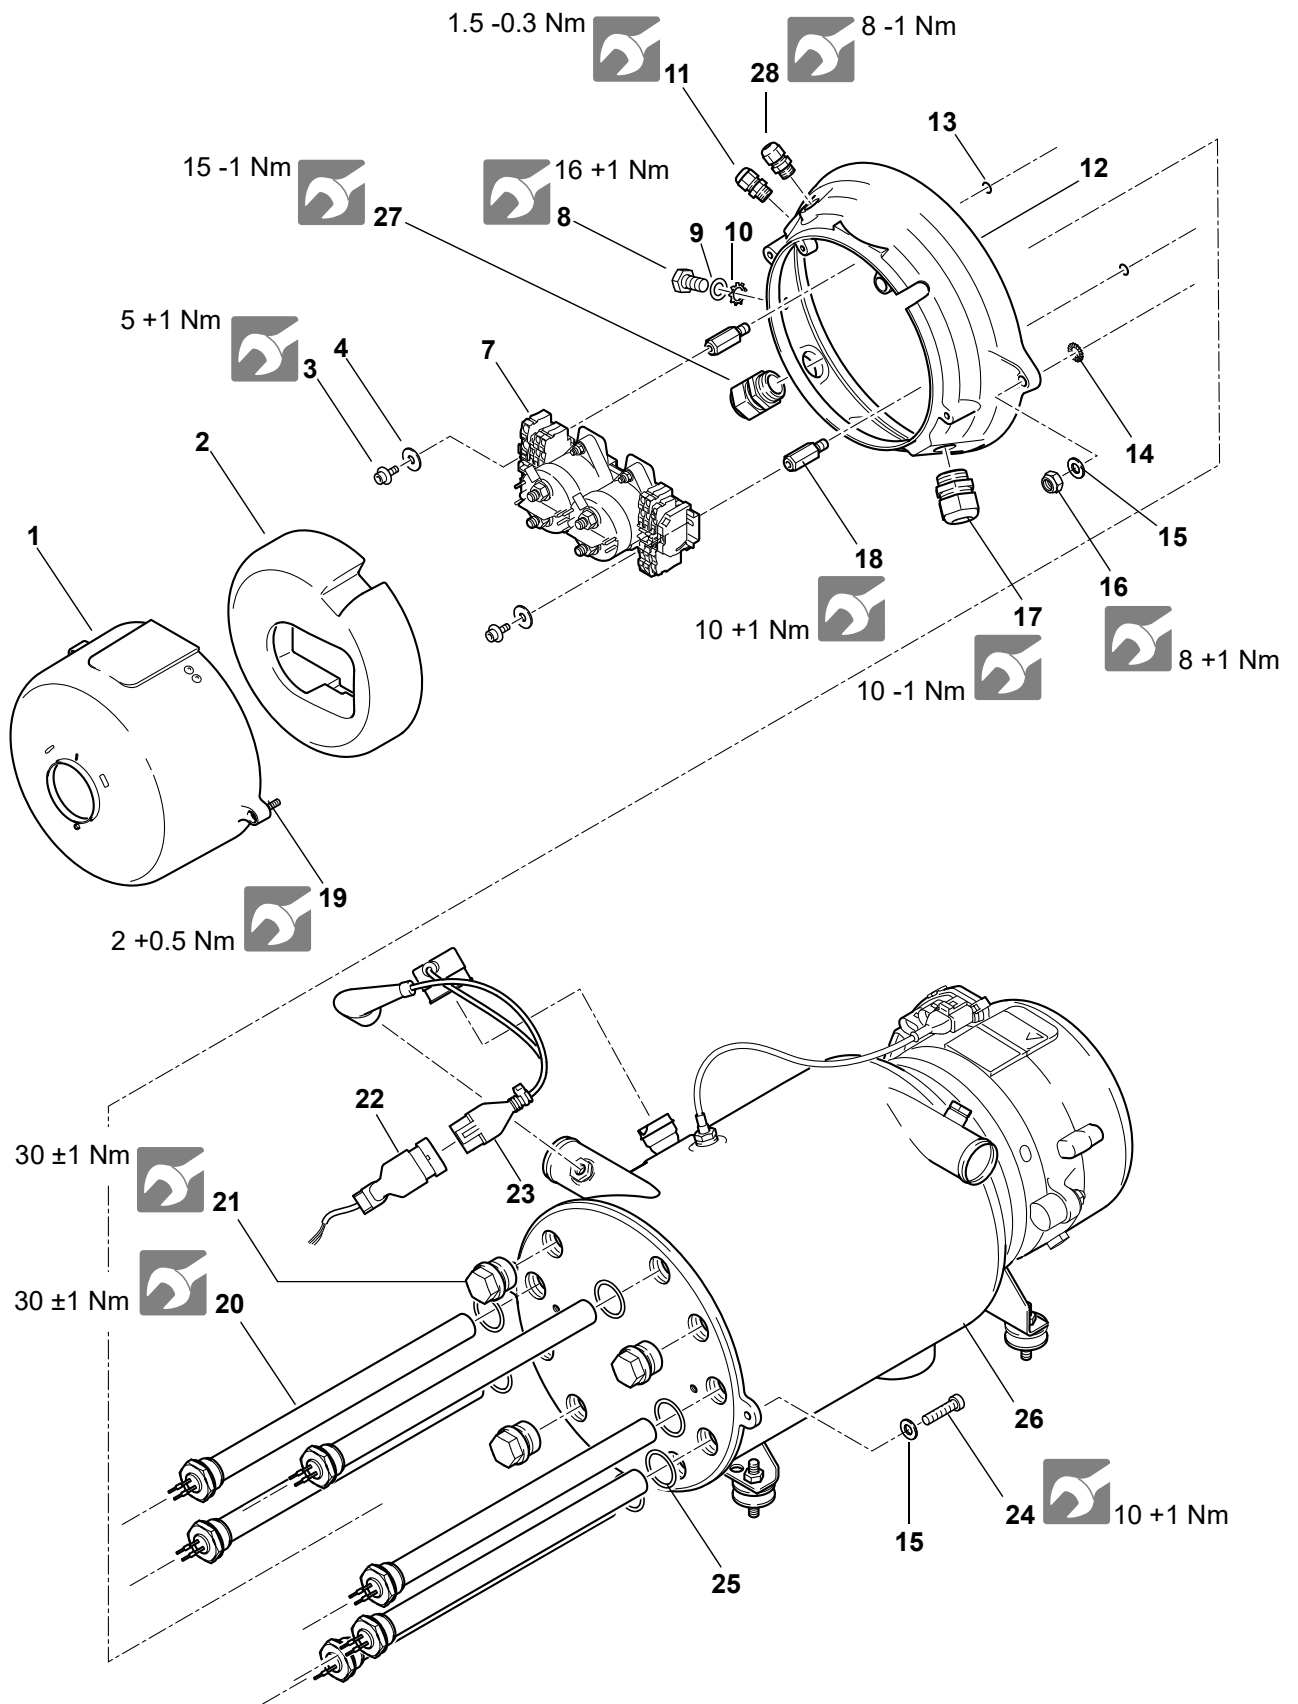
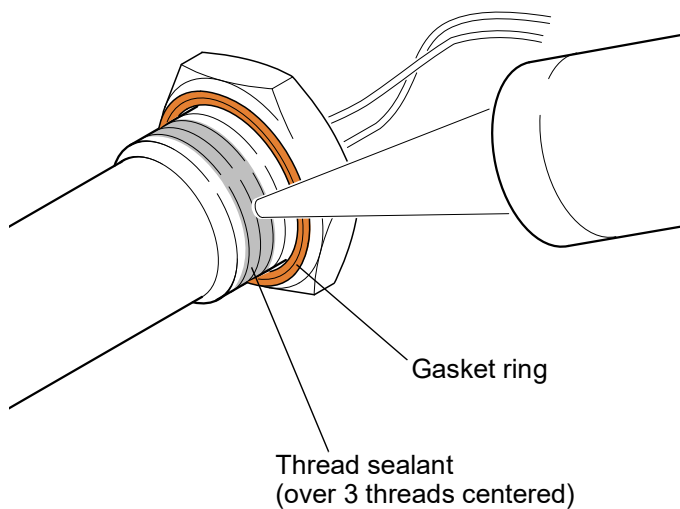

Fig. 805 HV Control head - Removal and Installation of components
Fig. 806
2. Loosen screws (19, Fig. 805).
1. Place stabilizer (2, Fig. 805) onto the small distribution board (7).
2. Place hood (1) in assembly position, turn in the screws (19) and tighten them.
3. Disconnect cables connected to the small distribution board (7, Fig. 805) by loosening the appropriate connections.
1. Position housing (12) over the small distribution board onto the heater and then secure it using screws (24, Fig. 805), washers (15), serrated washers (14) and nuts (16).
2. Screw grounding screw (8) with washer (9), serrated washer (10) and vehicle grounding cable lug into the housing (12) and tighten as required.
3. Install connection piece (22) of temperature guards onto the housing (12) if necessary.
4. Plug the temperature guards plug (23) into the connection piece (22) of temperature guards (note the snap-in noise).
5. Hook-up the supply cables to the corresponding terminals of the small distribution board (7) and tighten screws as required.
5. Remove screws (3, Fig. 805) and washers (4).
6. Remove small distribution board (7) from heater.
1. Position small distribution board (7, Fig. 805) to the stud bolts (18) and secure using washers (4) and screws (3).
4. Using a wrench loosen the heating cartridges (20, Fig. 805) or the screw plugs (21), screw them out and remove them from heat exchanger. Discard gasket rings (25).
2. Preassemble heating cartridge (20, Fig. 805) or screw plug (21) with a new gasket ring (25).
3. Apply thread sealant according to the manufacturer's instructions onto the thread, see Fig. 806, of the heating cartridge (20, Fig. 805) or screw plug (21).
8. Loosen cable gland (17, Fig. 805) and screw it with the appropriate cable harness from out the housing (12).
1. Route the single wires of the HV DC wiring harness through the appropriate hole (see Fig. 807) into the housing (12, Fig. 805) and screw the cable gland (17) into the housing and tighten it.
- 2 HV AC (DC)
6. Loosen cable gland (27, Fig. 805) and screw it with the appropriate cable harness from out the housing (12).
1. Route the single wires of the HV AC wiring harness through the appropriate hole (see Fig. 807) into the housing (12, Fig. 805) and screw the cable gland (27) into the housing and tighten it.
8. Loosen cable gland (11, Fig. 805) and screw it with the appropriate cable harness from out the housing (12).
1. Route the single wires of the LV DC control wiring harness through the appropriate hole (see Fig. 807) into the housing (12, Fig. 805) and screw the cable gland (11) into the housing and tighten it.